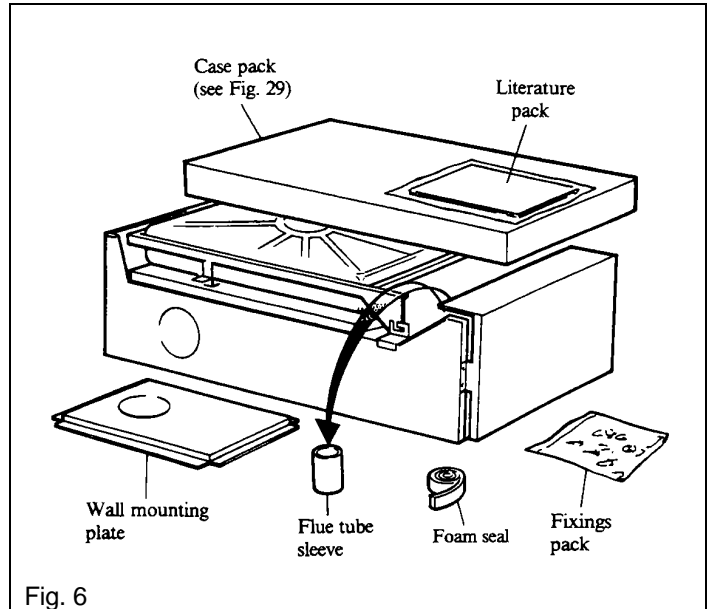

Fig. 6
Refer to Fig. 6.
2. Do not discard any packaging until all the items are accounted for, see Fig. 6.